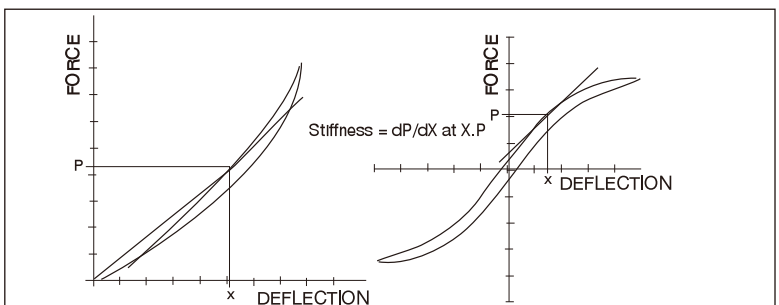

Fig. 5. dP/dX at XP average gradient over P (or X) range (usually derived by least squares method of curve fitting).
The stiffness of a spring is a measure of applied force (P) against a resulting Deflection (X). Measurements taken at a continuous feed rate (usually in the order of 1mm/sec velocity) provide static (or pseudo static) characteristic. The curves in fig. 5 show alternative methods of determining stiffness.
The curves in fig. 5 show alternative methods of determining stiffness.